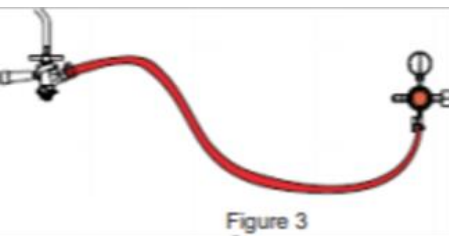

Figure 3
- b. Attach the red CO₂ pressure tube to the CO₂ regulator's outlet nipple and connect the other end of the tube to the CO₂ pressure inlet nipple on the keg coupler, secure both ends with a clamp. (Figure 3)